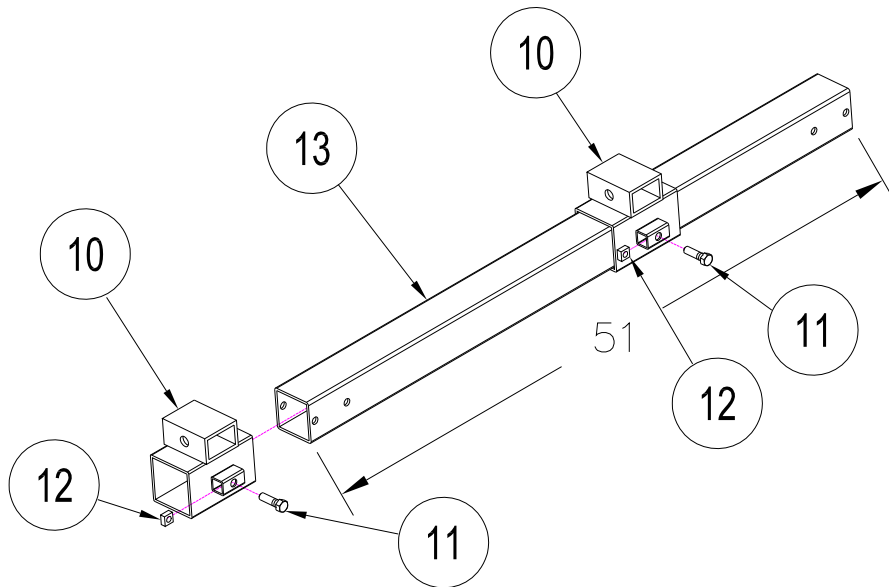

Figure 2-6.
1. **Refer to Figure 2-6.** Assemble two center support tubes. Install the 1/2-13 square nut (12) & 1/2-13 x 1-3/4 bolt (11) onto the bunk mount bracket (10).
2. Slide the bunk mounting brackets onto the center bunk support bracket (13). Adjust the bunk mount bracket and lock in position using the 1/2-13 x 1-3/4 bolt.